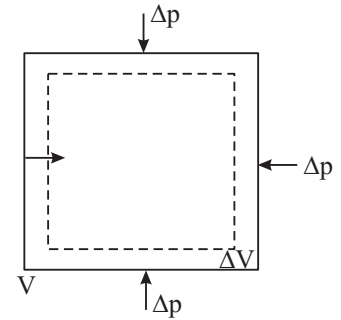

Fig. 8.7: Volume strain
- (ii) **Volume Strain :** If on application of a uniform pressure  $\Delta p$ , the volume  $V$  of the body changes by  $\Delta V$  (Fig 8.7) without change of shape of the body, then